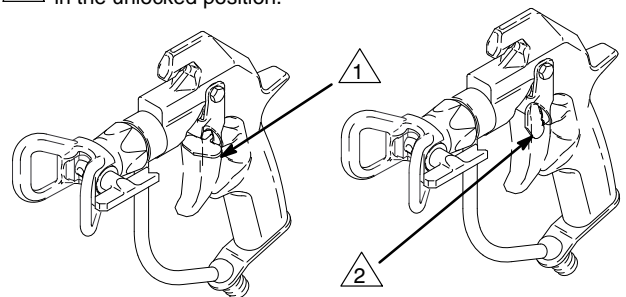

Fig. 1
1. To lock the gun trigger safety, turn the latch to a right angle with the gun body. See Fig. 1.